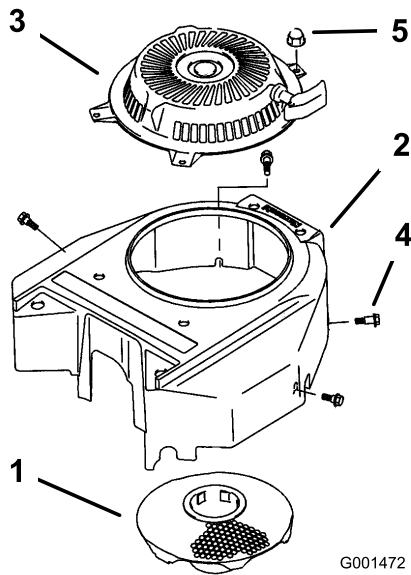

Figure 38
3. Remove the air-intake screen, recoil starter, and fan housing (Figure 38).
5. Install the air-intake screen, recoil starter, and fan housing (Figure 38).